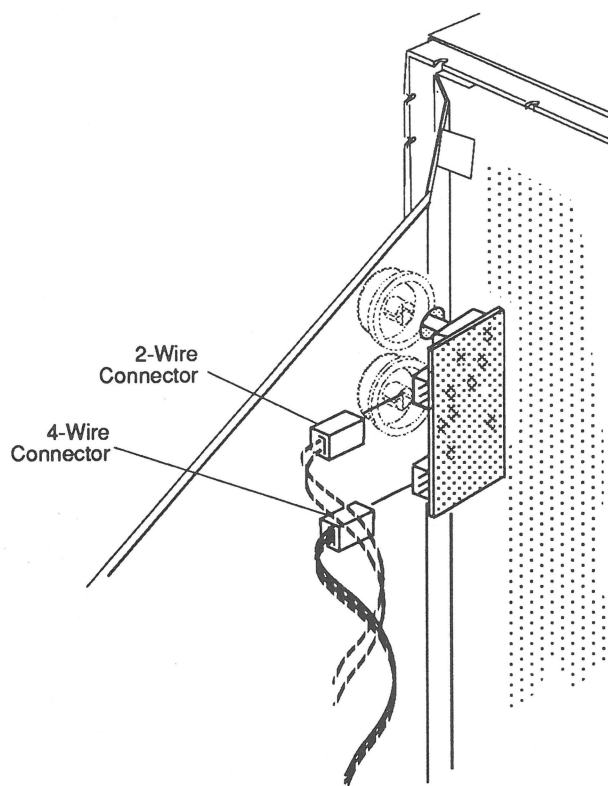

FIGURE 10
3. Reconnect the following connectors to the contrast brightness board (**Figure 10**).